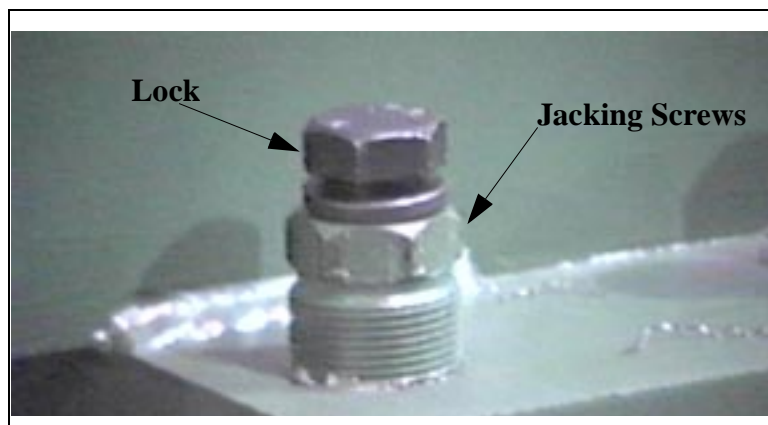

Figure 3: Hold Down Bolt
5. Tighten the hold-down bolts and at the same time adjust the Jacking screws (see Figure 3:) until all four corners are within .002" of the same elevation. Lock the hold-down bolts and confirm that elevation has not changed.